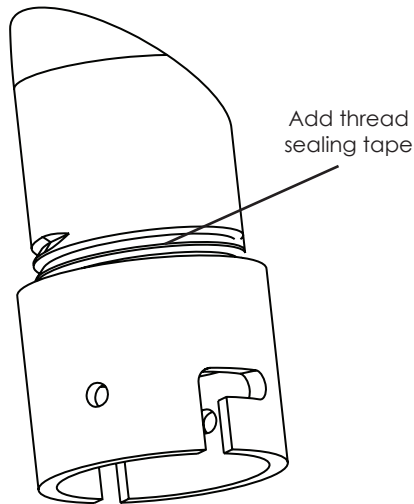

Figure 3
2. Attach the housing coupling (Figure 3).